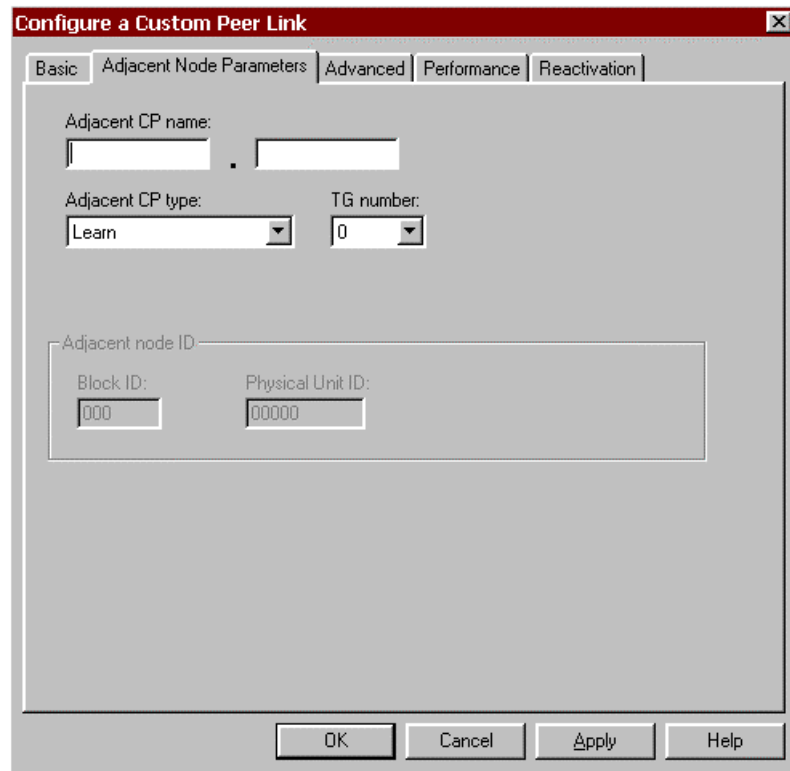

Figure 11-27. Configure a Custom Peer Link - Adjacent Node Parameters
- **Host link name (PU profile name):** A default name will be automatically assigned by the system. You may accept the default, or enter your own name up to eight (8) characters in length.
- **Port name (adapter):** By default the first custom data link adapter defined will be displayed. Select the adapter you wish to associate with this Host Link (PU) from the pull-down list. Keep in mind that the ESCON adapter associates the PU to the sub-channel address used to communicate with the host.
- Click the **Adjacent Node Parameters** tab (Figure 11-27) to continue.